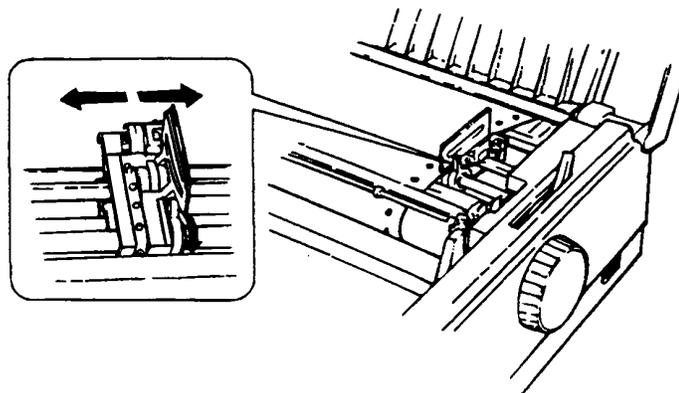
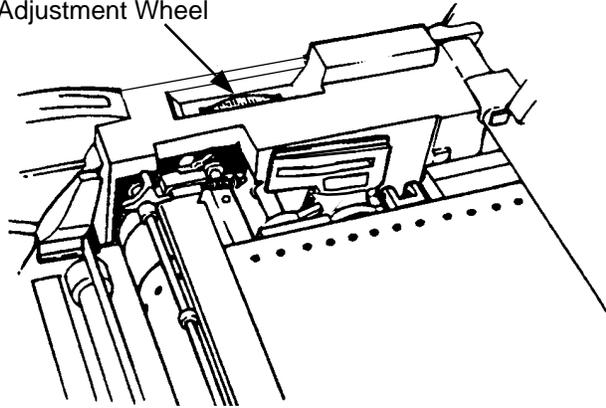

Figure 5-9. Tractor Lever in Loose Position
Figure 5-10. Paper Tension Adjustment Wheel
- 11.8. Open the covers of the main tractors, and install the paper so that the perforations along the edges of the paper fit over the tractor pins. See Figure 5-9. If necessary, turn the tension adjustment wheel to align the tractor pins with the perforations in the paper. See Figure 5-10.